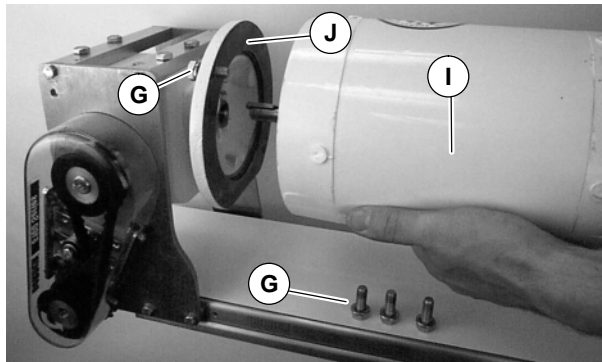

Figure 11
10. Attach gear motor (I of Figure 11) to gear reducer (J) with screws and washers (G of Figure 10). Tighten to 32 ft-lb (41 Nm).